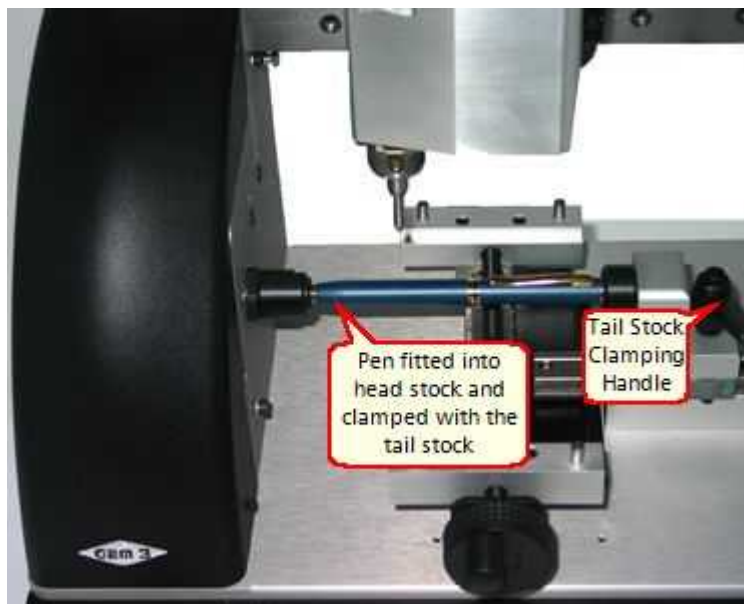

Figure 3
- 12 Put your pen to be engraved into your GEM-RX4 Engraving Machine, see Figure 3.